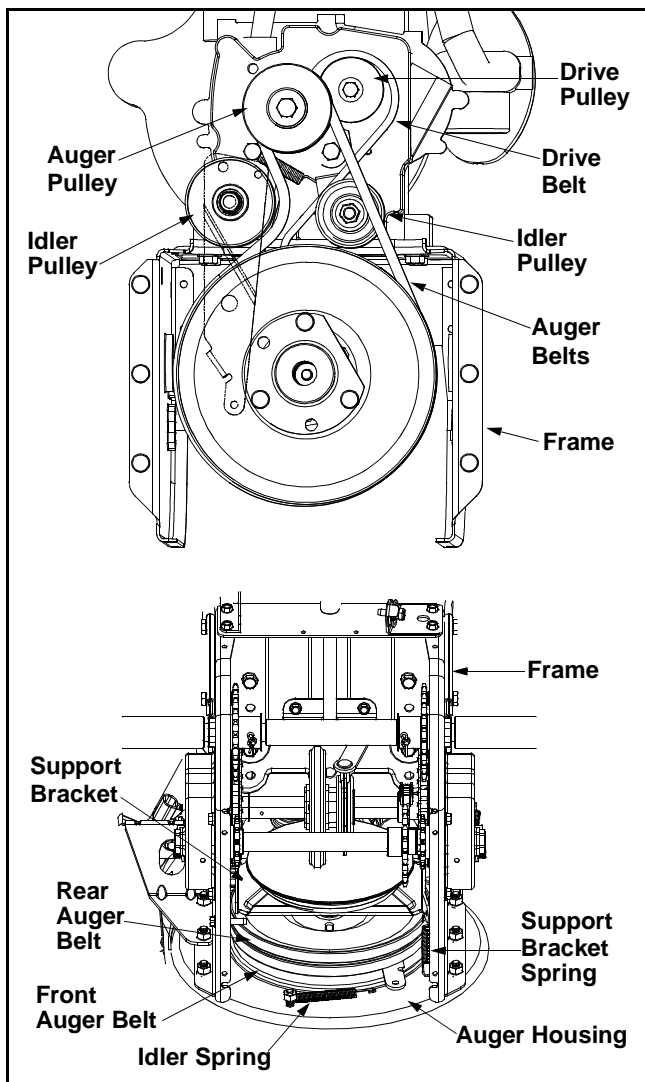

Figure 13
- Roll the front and rear auger belts off the auger drive pulley. See Figure 13.
- Unhook the idler spring from the hex bolt on the auger housing. See Figure 13.
- Pull the idler pulley up and lift the belt off the wheel drive pulley and friction wheel disc. See Figure 13.